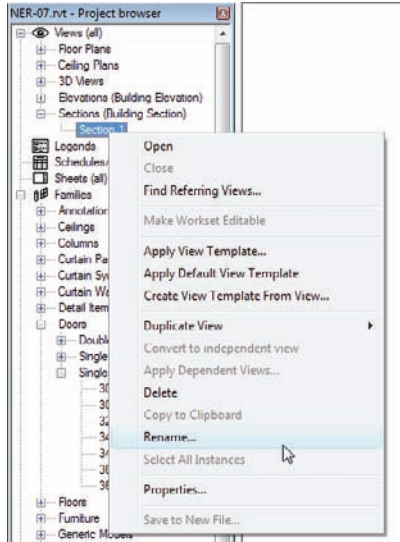

FIGURE 3.38 You can rename the view by right-clicking in the Project Browser.
2. Choose Rename from the context menu (see Figure 3.38).